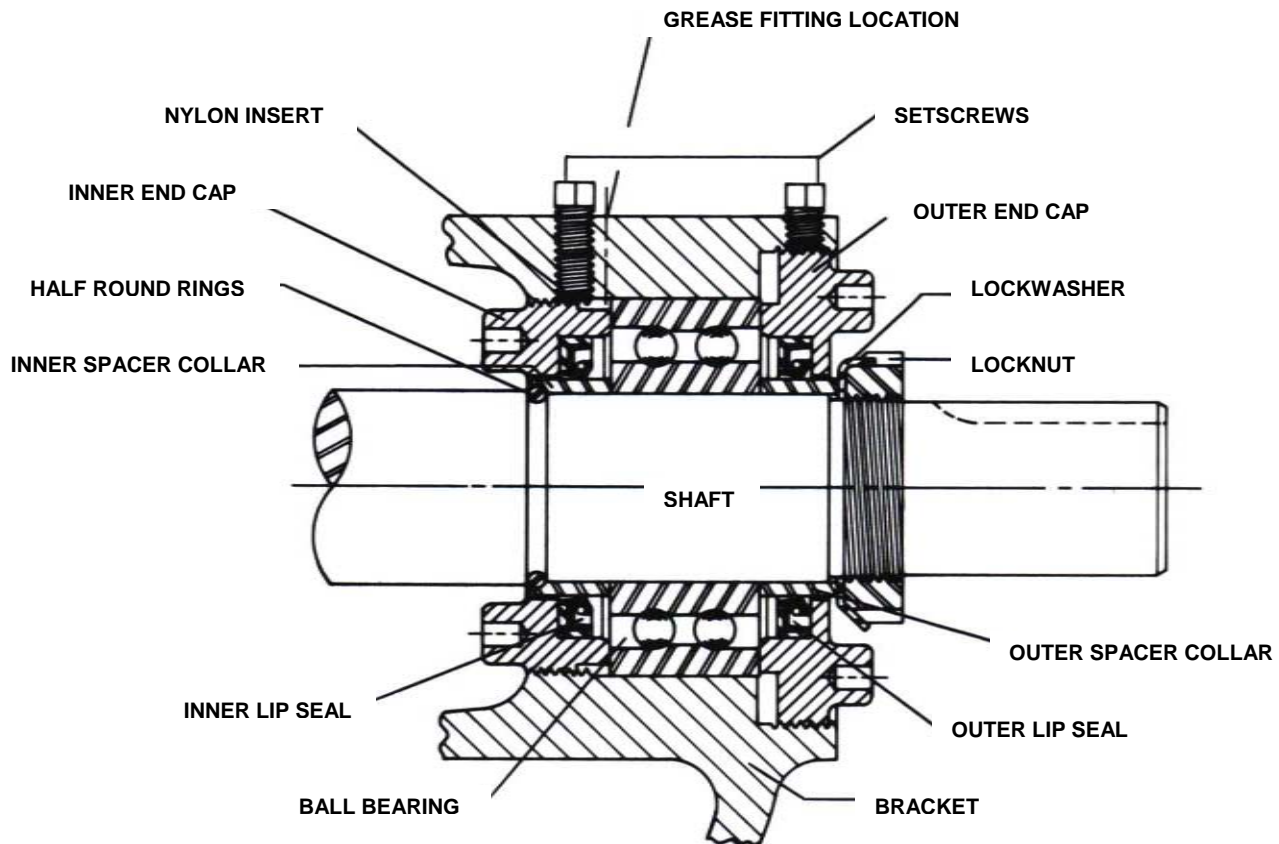

FIGURE 6
7. Loosen setscrews. Two for G, H and HL size pumps, four for all other sizes. With spanner wrench, remove both end caps and lip seals. Remove ball bearing and spacer collars. Refer to **Figure 6**, page 5.
Place pair of half round rings on shaft and slide inner bearing spacer collar over half round rings to lock them in place. There is no pair of half round rings on H, HL, Q and M size pumps. **Refer to Figure 6**, page 5.
13. Press lip seal, lip facing end of shaft, in inner end cap and insert end cap through shaft end of bracket. Turn end cap clockwise, looking at shaft end, until it engages threads. End cap spanner wrench holes must be facing rotor. Turn end cap with spanner wrench until it projects slightly from opening on side of bracket. End cap must not be turned so far that lip seal drops off end of spacer collar on shaft or end cap becomes disengaged from threads. **Refer to Figure 6**, page 5.
15. Press lip seal, lip facing end of shaft, in outer end cap and insert end cap in bracket. Turn end cap in bracket until it is tight against bearing. **Refer to Figure 6**, page 5.